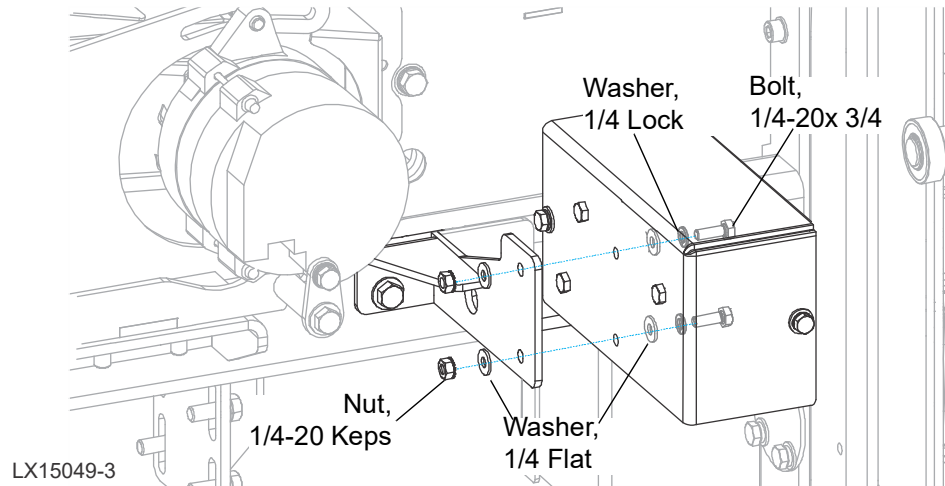

FIG. 1-3
1. Install the solenoid/breaker box to the mounting bracket. See Fig. 1-3.